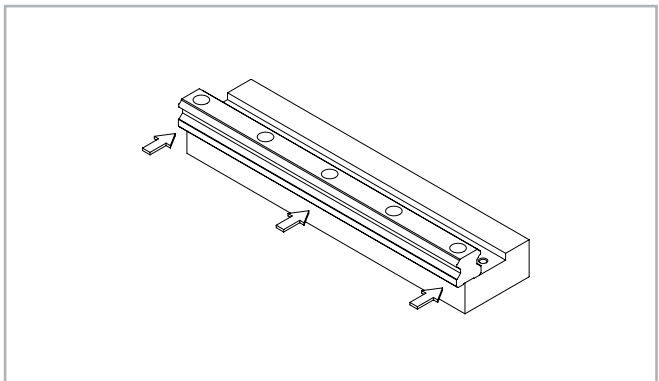
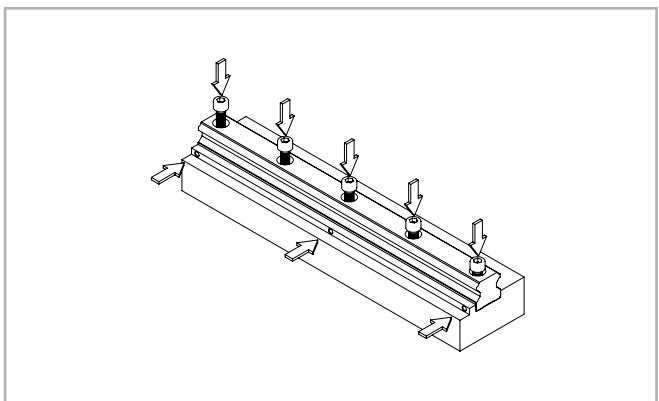

Fig. 54
Fig. 55
(2) Carefully lay the guide rail on the assembly surface (see fig. 54) and slightly tighten the fixing screws so that the guide rail lightly touches the assembly surface (align the guide rail along the shoulder edge of the assembly surface, see fig. 55).